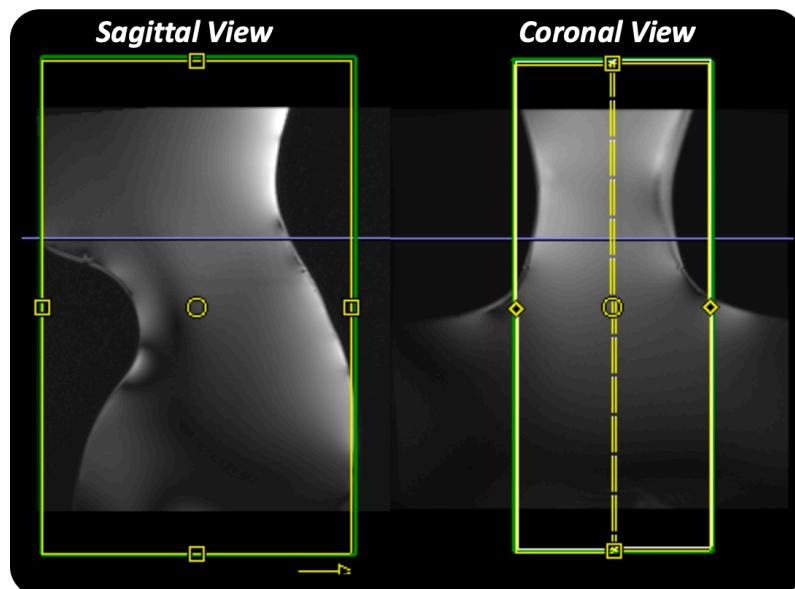

Figure 13. Positioning of FOV for TFL_rfmap scans
- **Position the Field of View (FOV) according to Figure 13.** The center of the FOV should roughly correspond to the Isocentre. If the FOV in the FH direction for the imported protocol is too large for your coil, use the largest FOV possible in the FH direction for your coil.